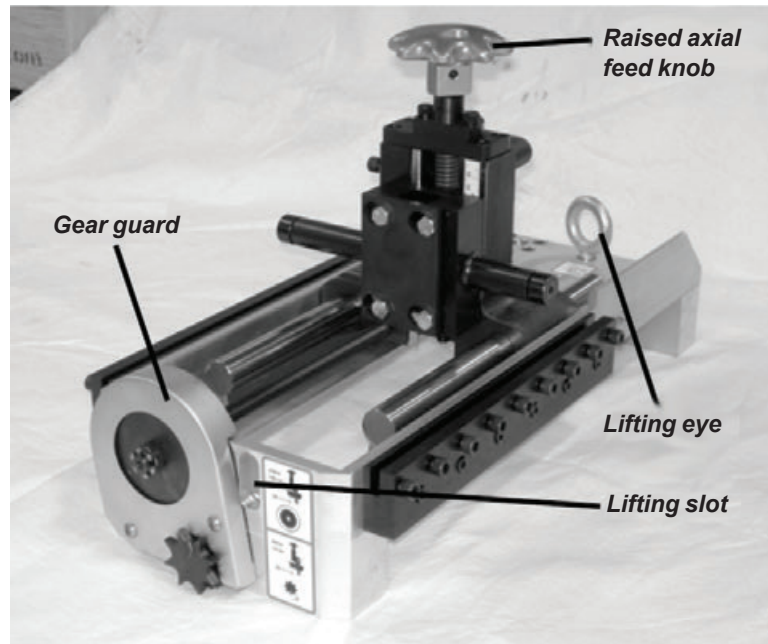

Figure 2-1. The photo illustrates the bridge slide safety features.
The bridge slide incorporates the features illustrated in Figure 2-1 to reduce operating hazards.
- All bridge slide models are equipped with a lifting eye and a lifting slot, shown in Figure 2-1, for attaching the slide to a lift device. When using a lift device, always attach it at these points.